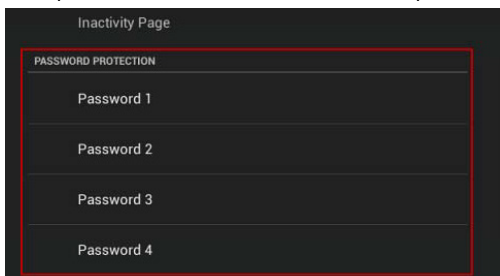

**FIG. 32** Inactivity window
1. In the *G5 Settings* page, press **Inactivity** to open the *Inactivity* window (FIG. 32):